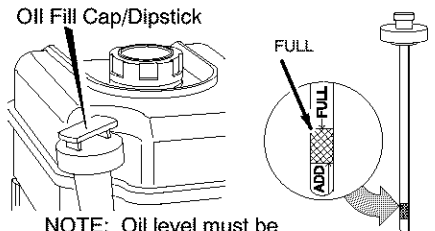

Figure 18
3. If necessary, add oil until the oil reaches the **FULL** mark on the oil fill cap/dipstick (see Figure 18). Do not add too much oil.